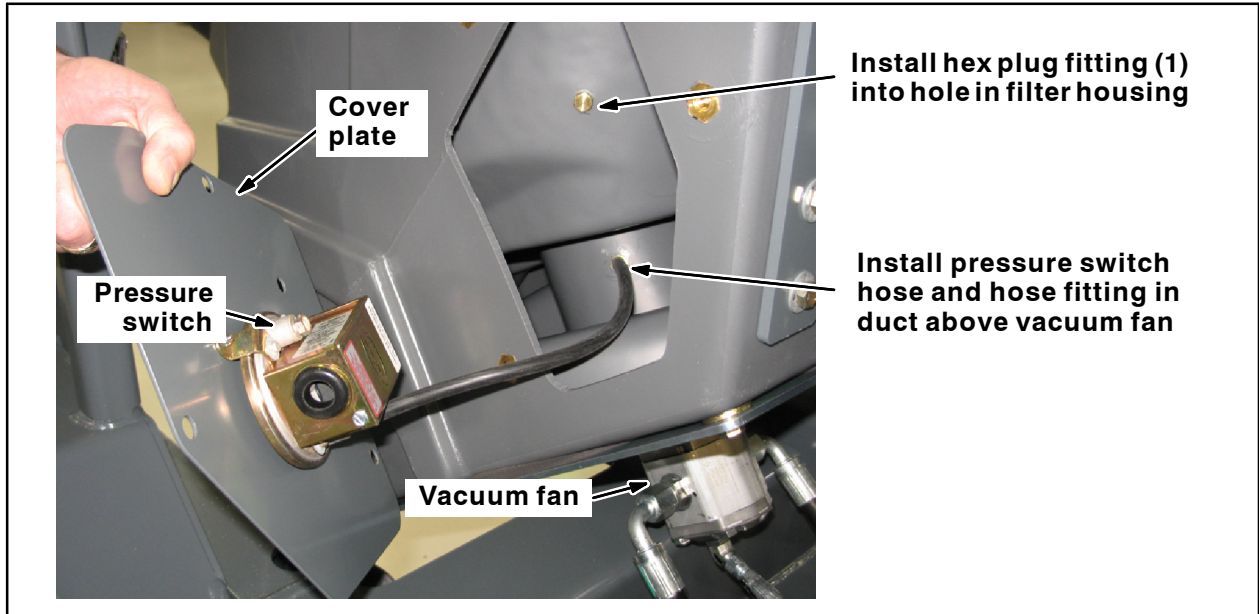

FIG. 1
1. Remove the cover plate / pressure switch from the filter housing. Do not remove the pressure switch from the cover plate. Set the hardware aside. Refer to Fig. 1.
2. Disconnect the pressure switch hose from the filter housing. Do not disconnect the hose from the pressure switch. Set the cover plate / pressure switch aside. Refer to Fig. 1.
3. Remove the hose fitting from the filter housing. Refer to Fig. 1.
4. If there is a hole with a hex plug fitting in the duct above the vacuum fan, remove the hex plug fitting from the duct to the vacuum fan. Refer to Fig. 1.
If there is no hex plug fitting installed in the duct above the vacuum fan, drill a 11/32" (8.50 mm) hole into the same approximate location on the duct as shown in Fig. 1.
5. Thread the hose fitting removed from the filter housing into the hole in the duct above the vacuum fan. Refer to Fig. 1.
6. Install the hex plug fitting (1) into the hole in the filter housing. Refer to Fig. 1.
7. Connect the pressure switch hose to the hose fitting installed in the duct above the vacuum fan. Refer to Fig. 1.